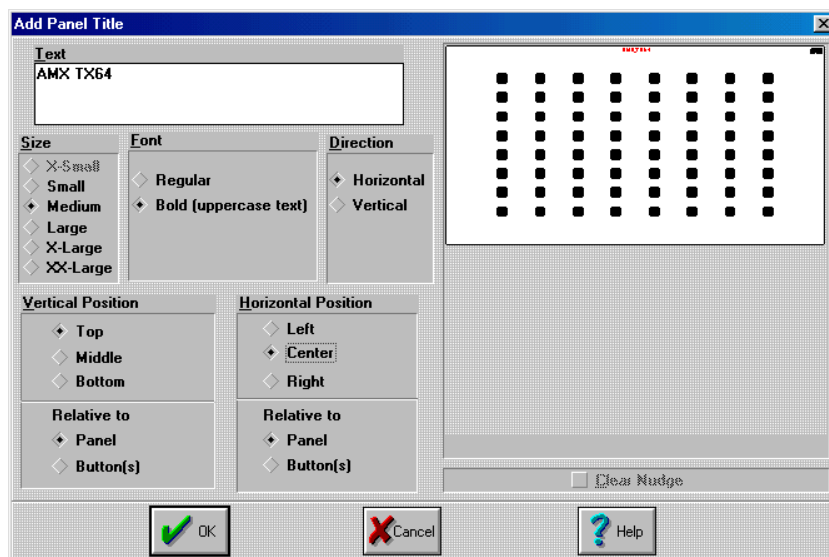

FIG. 6 Add Panel Title dialog
1. Click Panel > Panel title to open the Add Panel Title dialog shown in FIG. 6. You can also double-click on existing overlay titles to open the same dialog.